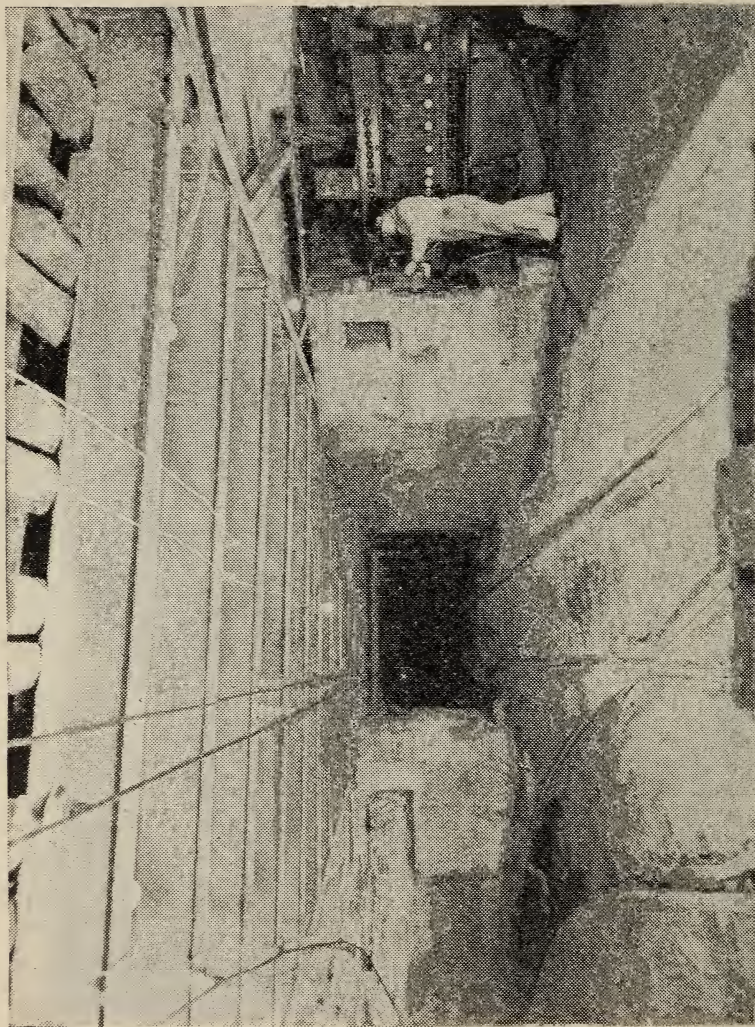

FIGURE 23. —The movement of trips should be controlled by a well-planned and properly installed dispatcher system.
- A. A proper system of signals should be provided. (See fig. 23.)